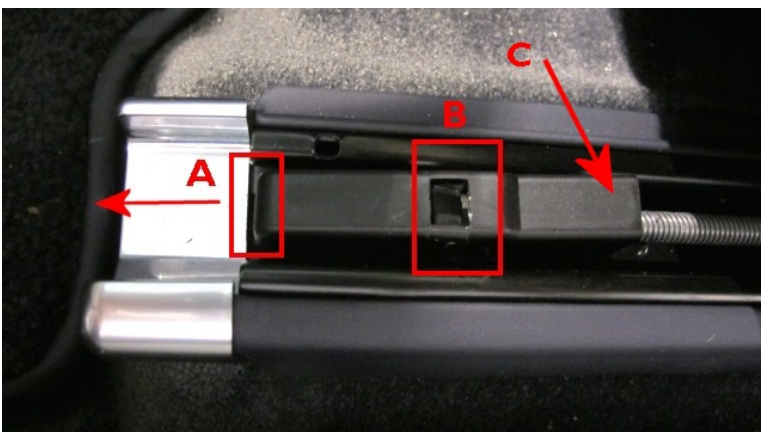

Figure 23
**NOTE:** Referring to Figure 23 when fitting the new seat bolt cover ensure the front edge lip (Point A) is located under the seat rail embellisher and push the cover forward.